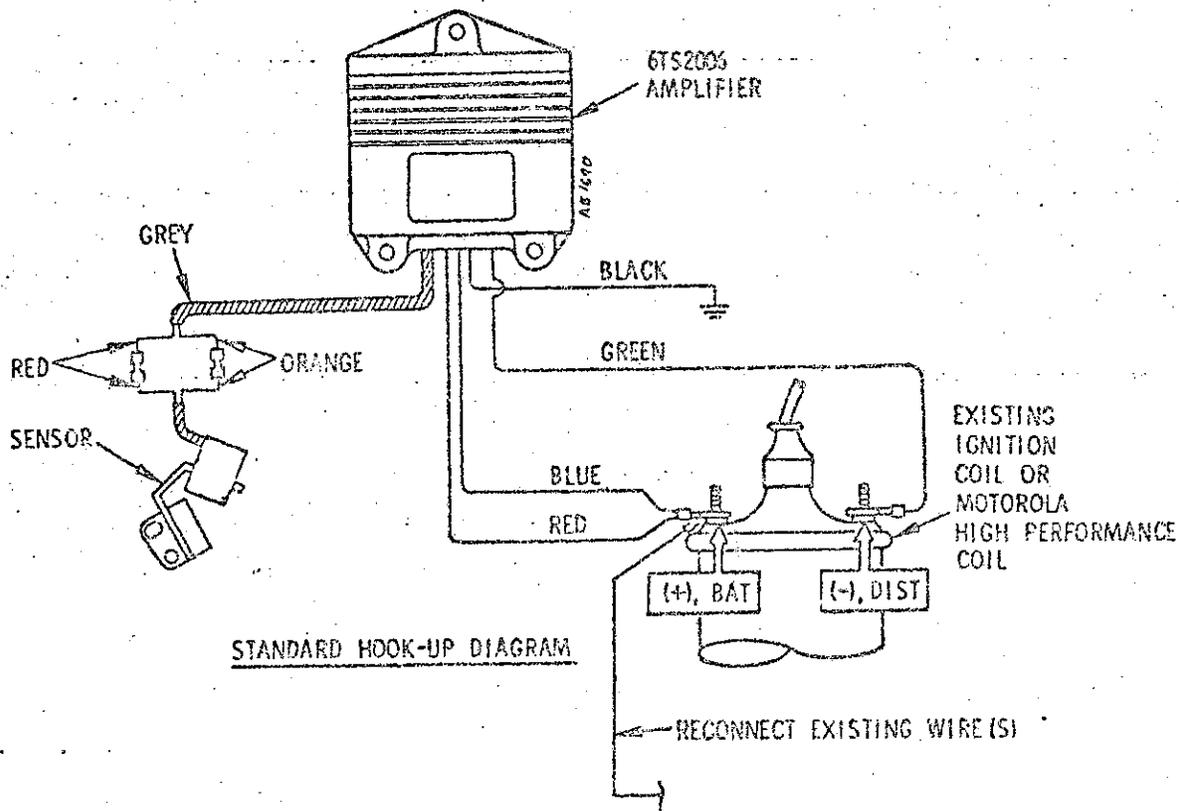

FIGURE 2
WIRING INSTRUCTIONS (Figure 2)
1. Route wires from amplifier to the ignition coil and distributor as indicated by the hook-up diagram in Figure 2. Route wires along existing har-
3. Connect blue/red wire to positive terminal (marked either "+" or "BAT") of ignition coil. Connect green wire to negative terminal (marked either "-" or "DIST") of ignition coil. See Figure 2. For high performance applications, see Figure 3. A special high performance coil is available for either hook up. See your dealer for more information.